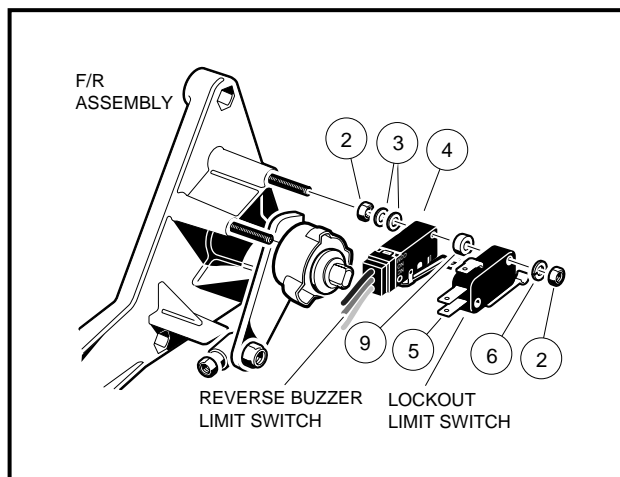

Figure 12-19 Lockout Cam & Reverse Buzzer Limit Switches
2. Disconnect the wires from the lockout cam limit switch (5) located on the back of the Forward/Reverse shifter assembly (**Figure 12-19, Page 12-18**).
3. Remove two nuts (2) and washers (6) from the lockout cam limit switch (5) and slide the lockout cam limit switch off of the screws.
1. Install the lockout cam limit switch (5) with two washers (6) and two nuts (2) (**Figure 12-19, Page 12-18**). Tighten to 5 in-lb (0.6 N·m). Place the Forward/Reverse handle in REVERSE to make sure that both switches actuate. **See following CAUTION.**
2. Disconnect the wires from the reverse buzzer limit switch (4) located on the back of the Forward/Reverse assembly (**Figure 12-19, Page 12-18**).
3. Remove the nuts (2) and washers (6) from the lockout cam limit switch (5) and slide the lockout cam limit switch off of the screws. Do not disconnect the wires.
4. Remove the spacers (9) from the reverse buzzer limit switch (4) and slide the reverse buzzer limit switch off the screws.
4. Connect the orange wire to the common (COM) terminal and the red/white wire to the normally open (NO) terminal of the reverse buzzer limit switch (4) (**Figure 12-19, Page 12-18**).